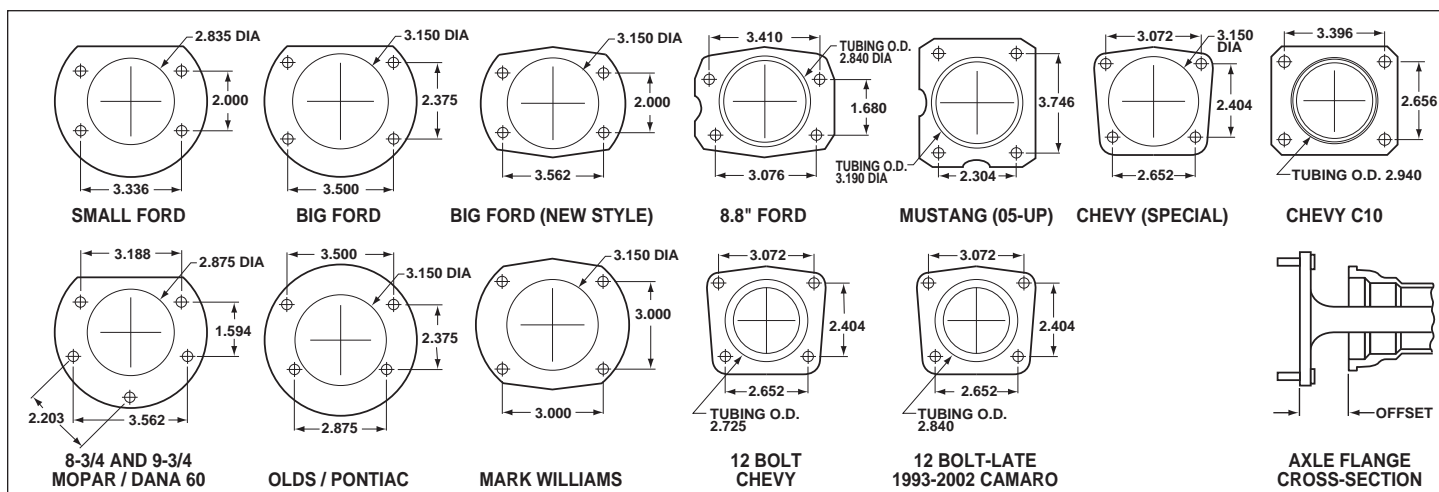

Figure 5. Rear Housing Flange Chart and Axle Flange / Offset Cross-Section
- Make sure this is the correct kit to fit the axle housing flange, not necessarily the rear end make. Many times after market manufacturers put a different make of axle housing flange on the stock rear end housing (see Figure 5, next page). Example; Big Ford rear ends with Olds-Pontiac flanges, therefore, an Olds-Pontiac rear disc brake kit would be the correct kit to order.